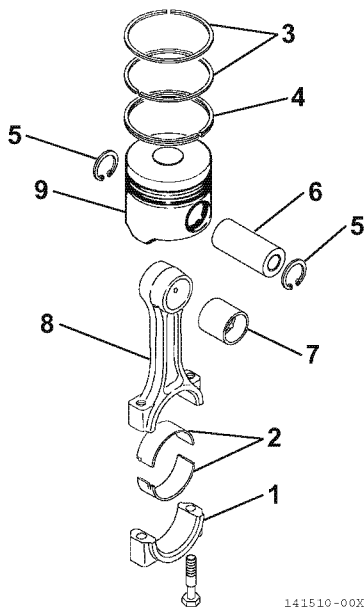

Figure 6-93
2. If removed, install a new wrist pin bushing (7, **Figure 6-93**) using a press and the appropriate service tool. Be sure to align the oil holes.
3. Reinstall one circlip (5, **Figure 6-93**) into the piston. Ensure the circlip is securely seated in the groove.